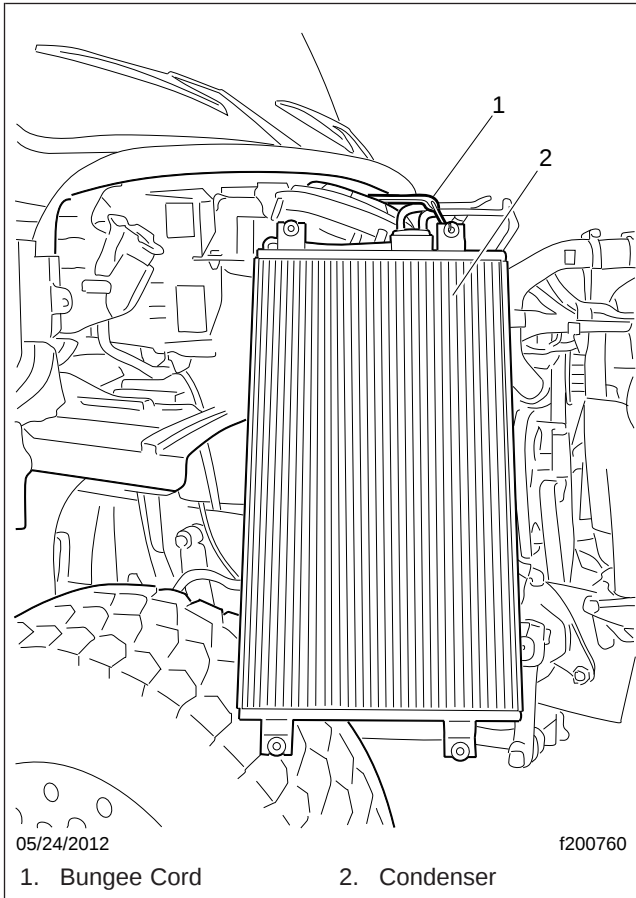

Fig. 12, Securing the A/C Condenser
10.4 Carefully move the condenser around and set it on the right front tire. Secure it as needed. See Fig. 12.